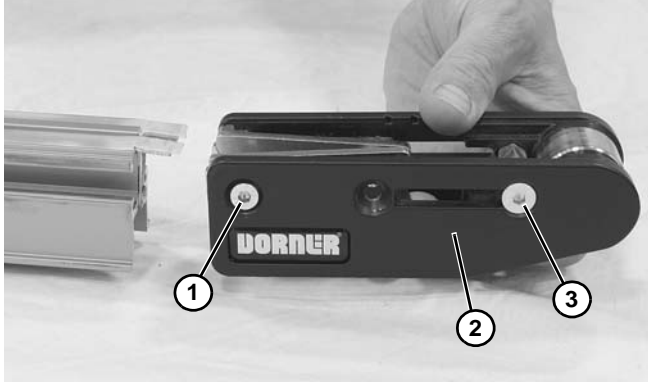

Figure 58
2. Loosen screw (**Figure 58, item 1**) on both sides of conveyor. Remove idler tail (**Figure 58, item 2**) from conveyor.
3. Remove fastening screw (**Figure 58, item 3**).